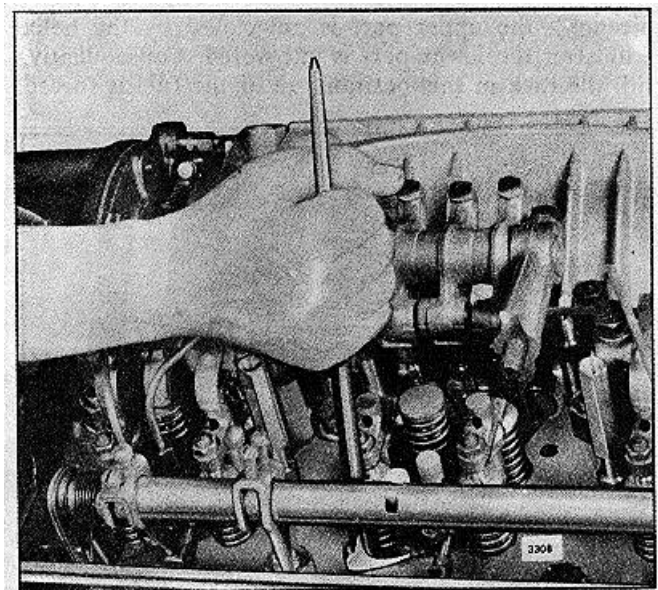

FIG. 7 - Removing Injector from Cylinder Head
4. Remove the two rocker shaft bracket bolts and swing the rocker arms away from the injector and valves (Fig. 7).